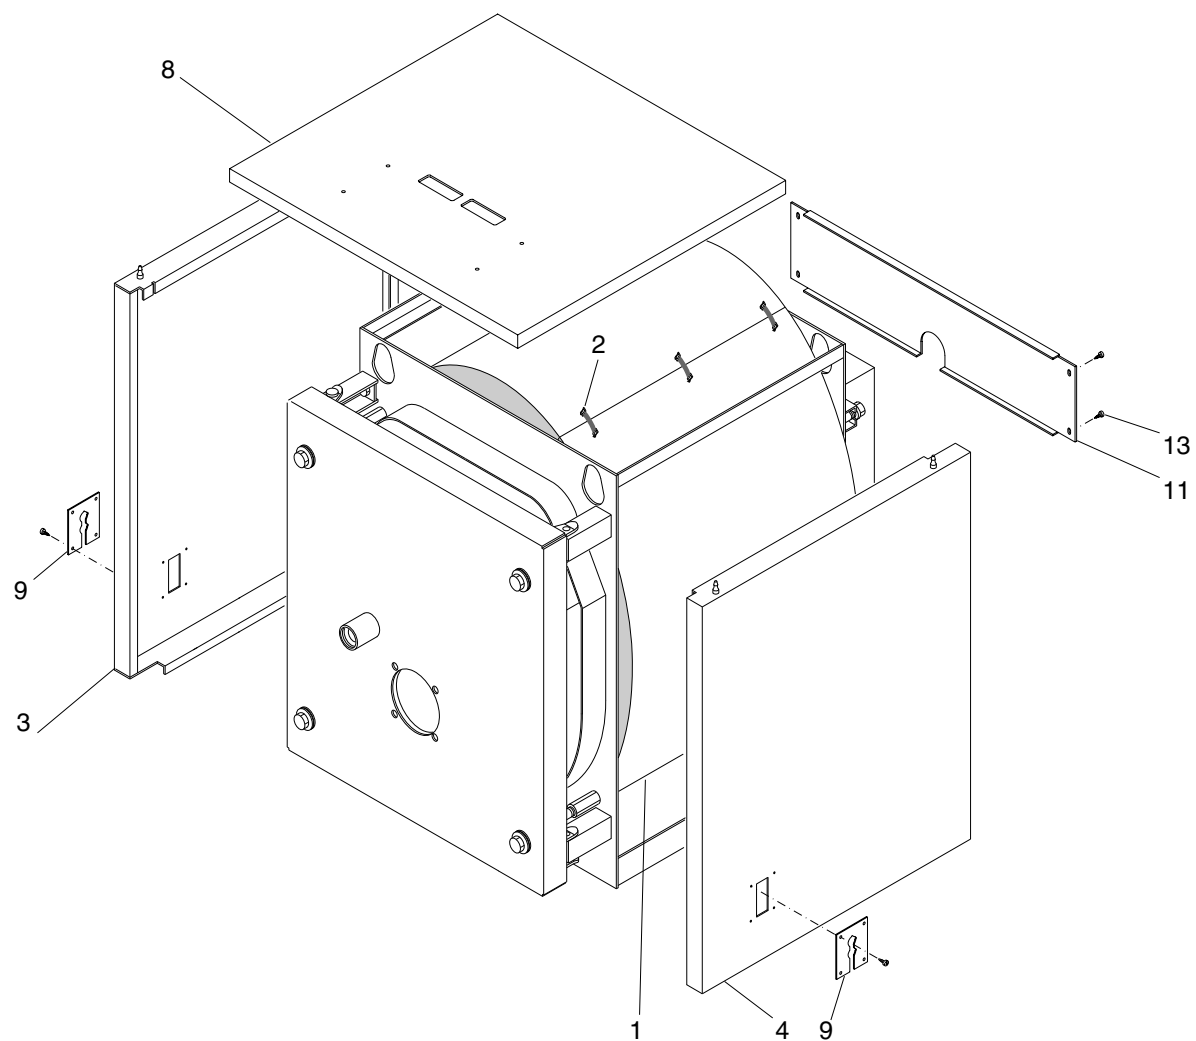

fig. 18
N.B. For the models TX NN 65 to TX NN 85 (ref. fig. 18 & 19), the casing and the insulation are contained in one carton stamped:	50085 (casing for TX NN 65) 50086 (casing for TX NN 85)
**Refer to diagram on fig. 18 & 19 for details:**
- A) Fit the insulation blanket (1) onto the boiler shell and secure it in to place using the elasticated straps (2) provided, ensuring that the metal clips grip in to the external surface of the insulation.
- B) Locate the side panels (3) and (4) with the lower bend inside the bottom L profiles and the upper bend in the seats of front and rear tube plates.